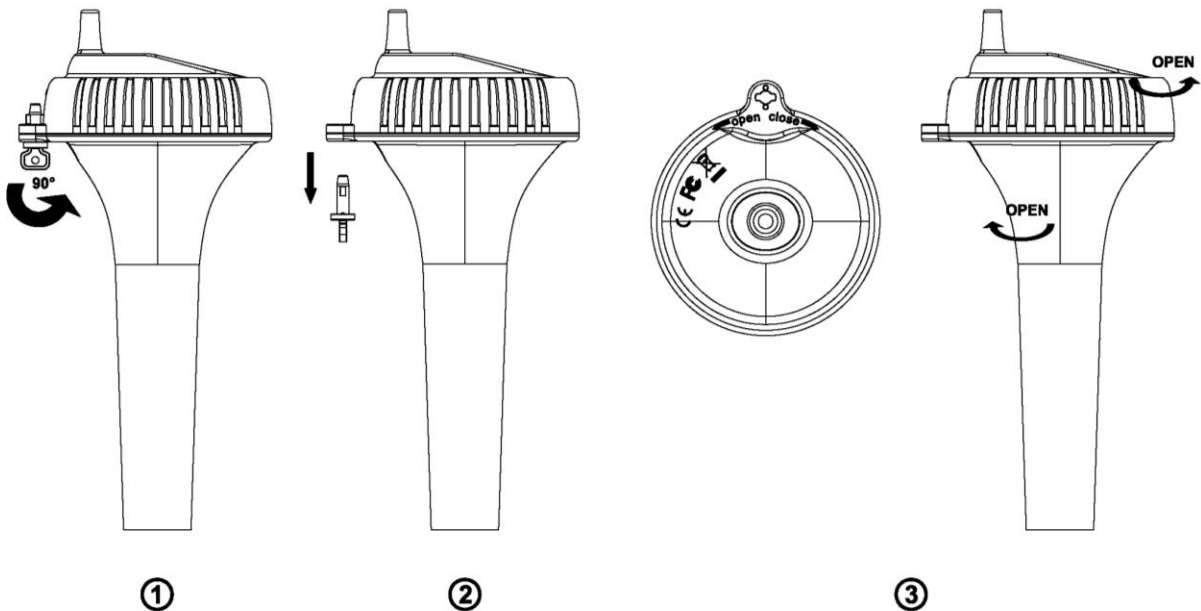

Figure 2
1. To insert the batteries,, (1) Twist the KEY lid to unlock, (2) remove the key, and (3) twist the main body of the sensor by removing the lid, as shown in Figure 2 .